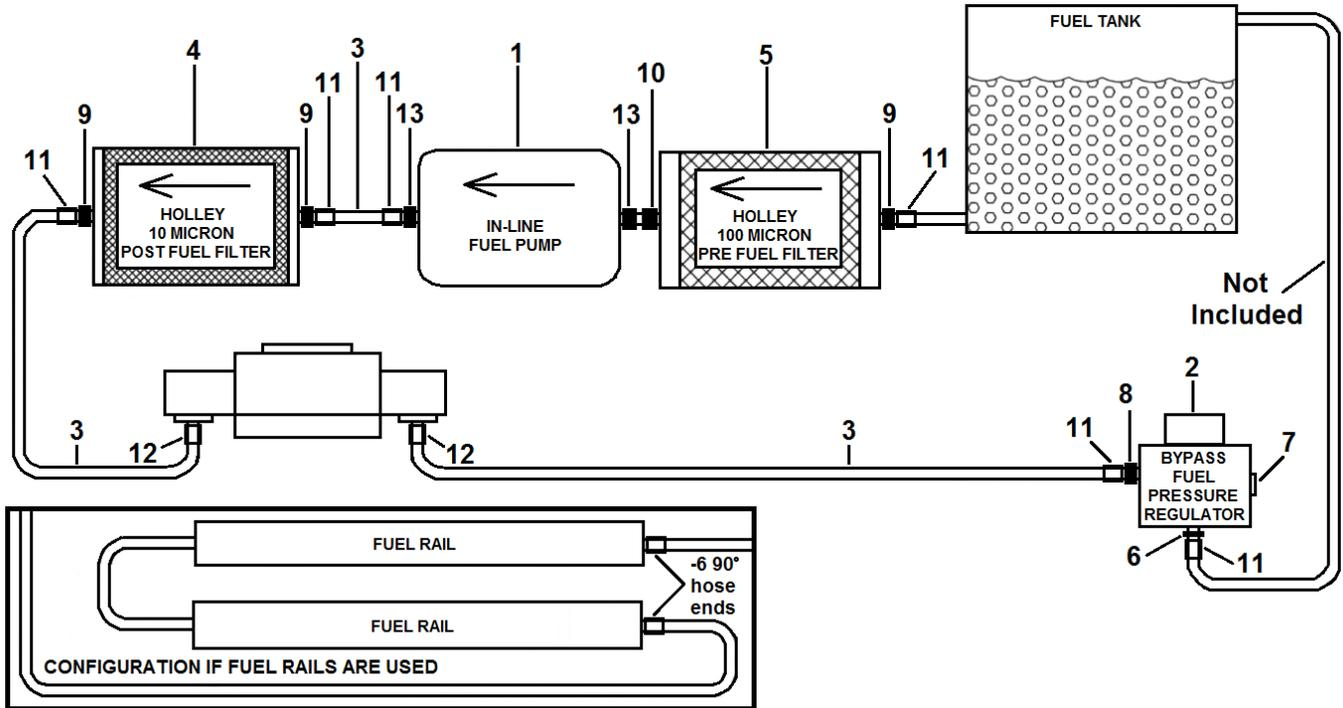

Figure 2 – KIT 526-3 (refer to 4.1 PARTS IDENTIFICATION)
The following section covers the installation of an in-line pump. Holley in-line fuel pump P/N 12-700 is included with this kit. Holley also includes both a pre and post filters. See **Figure 2 & 3** for installation diagrams.
6. Plumbing must now be installed to connect the fuel tank to the filters, pump, and TBI unit. See **Figure 2**.